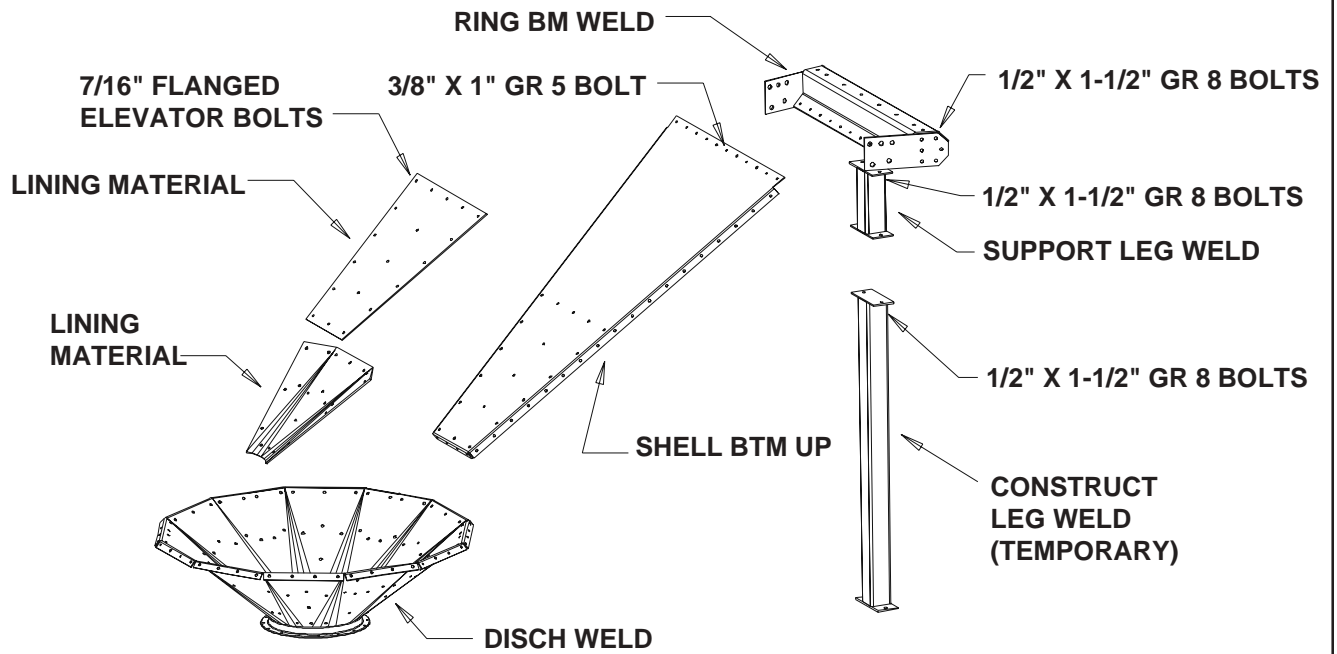

Fig. 2-1
2. Consider the location and orientation of the Support Legs, Access Doors, Overs Discharge and the Gate Drive, then install one **SHELL BTM UP** panel and one **RING BM WELD**ment section using 3/8" x 1" Gr. 5 bolts with flanged nuts. If the unit has a Factory Supplied Integral Platform, leave out the top two bolts on each side seam. Use mastic sealant between seams. Note that the Ring Beam installs to the **outside** of the Bottom Shell Upper panel. (See Fig. 2-1)